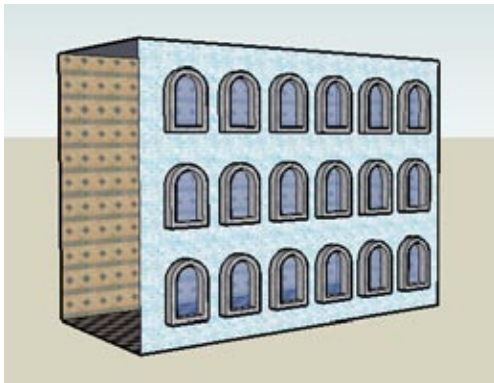

Figure 1-31
13. To erase the construction lines, you can use the Eraser tool and click each one, or choose Edit→Delete Guides. (You can also hide construction lines by choosing View→Hide Guides.) The completed model is shown in Figure 1-31.